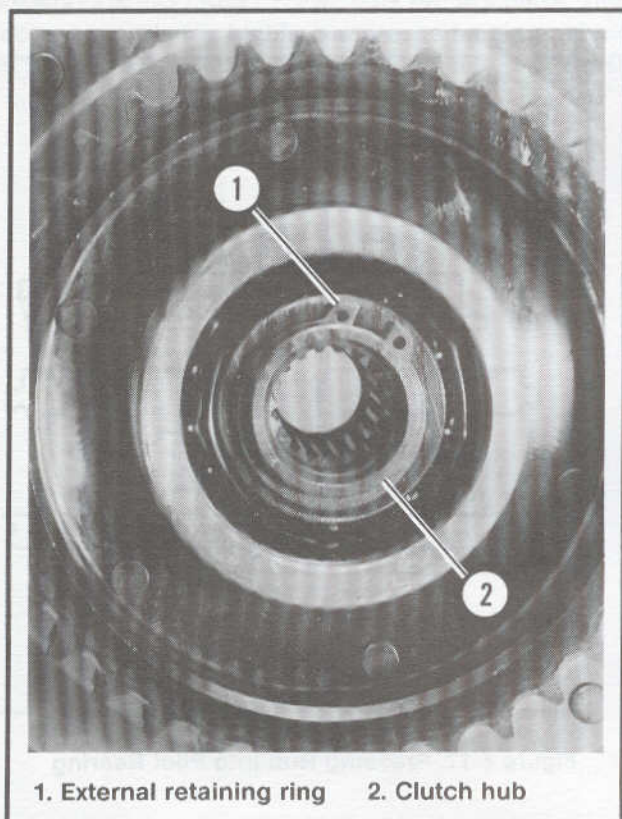

Figure 6-14. Clutch Hub Retaining Ring
2. See Figure 6-14. Remove external retaining ring (1).